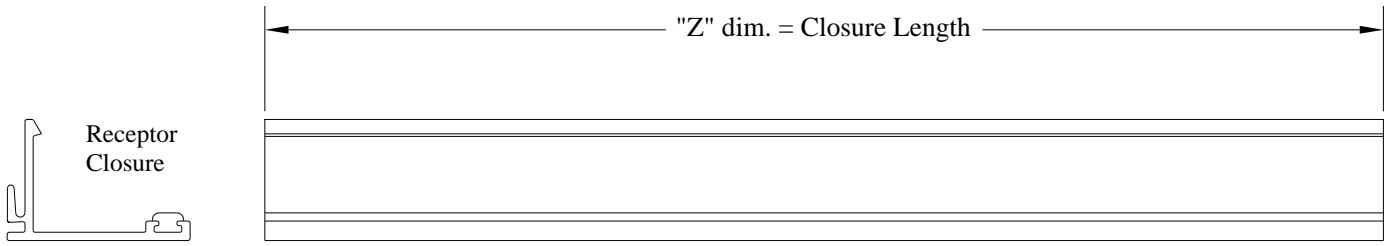

Figure 33-1
- G. Measure for the jamb receptor length. See the vertical “X” and “Y” dimensions as indicated in this section (See Figures 33-1, 33-2).